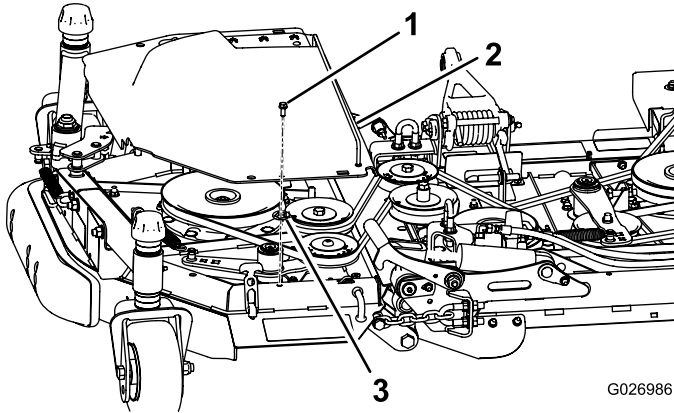

Figure 13
5. Install a bolt and a push nut to the left plastic cover (Figure 13).